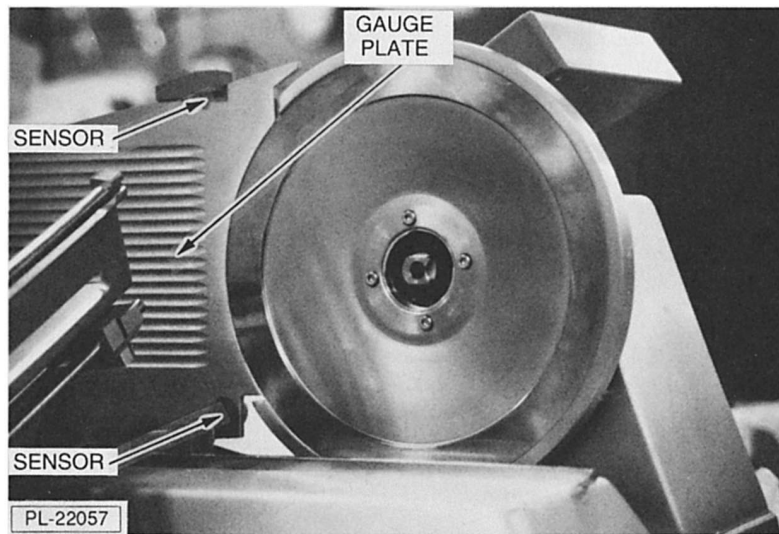

Fig. 42
10. Clean sensors (Fig. 42) with a damp cloth.
11. With gauge plate (Fig. 42) closed, CAREFULLY clean knife. Wipe outward from the center. Never use steel pads to clean the knife.